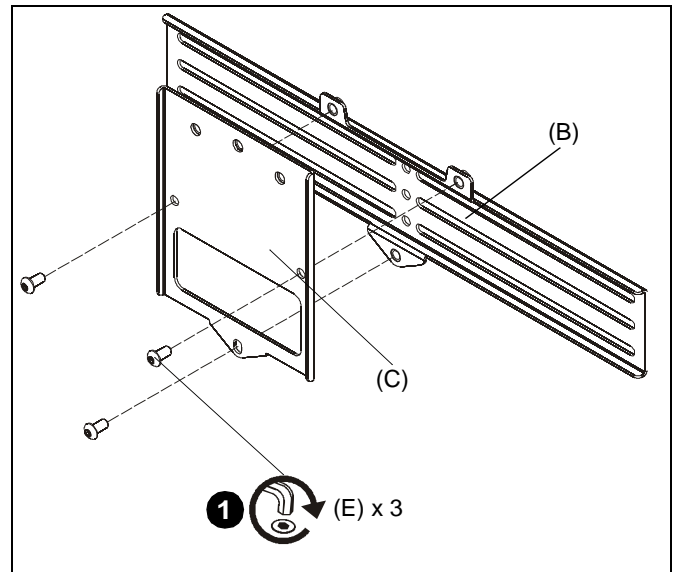

Figure 3
1. Use three 1/4-20 x 3/8" button head cap screws (E) to attach long extension bracket (C) to center speaker bracket (B). (See Figure 3)